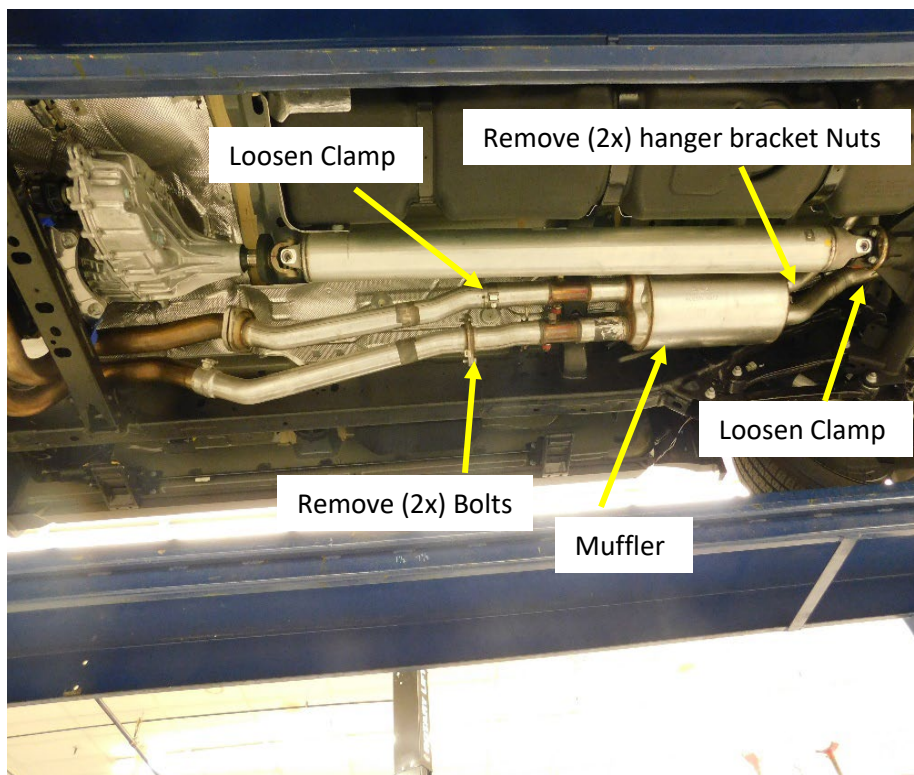

Figure.3
4. Remove the (2x) bolts at the Muffler inlet pipe Flange. **Fig. 3**